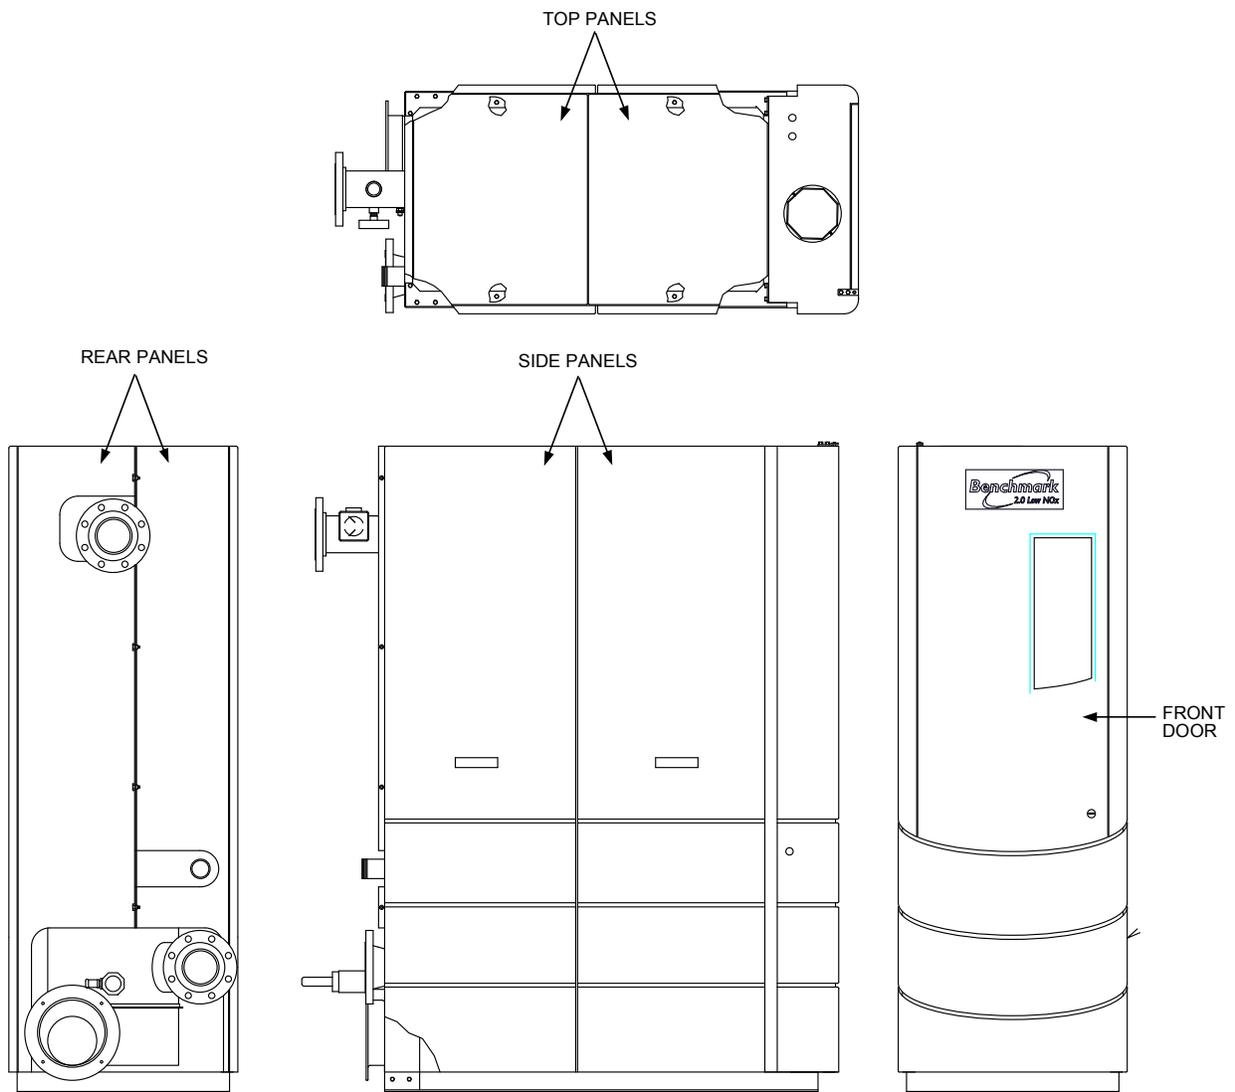

Figure 1. Benchmark 2.0 Boiler
5. Refer to Figure 1 and remove the top and side panels of the unit.